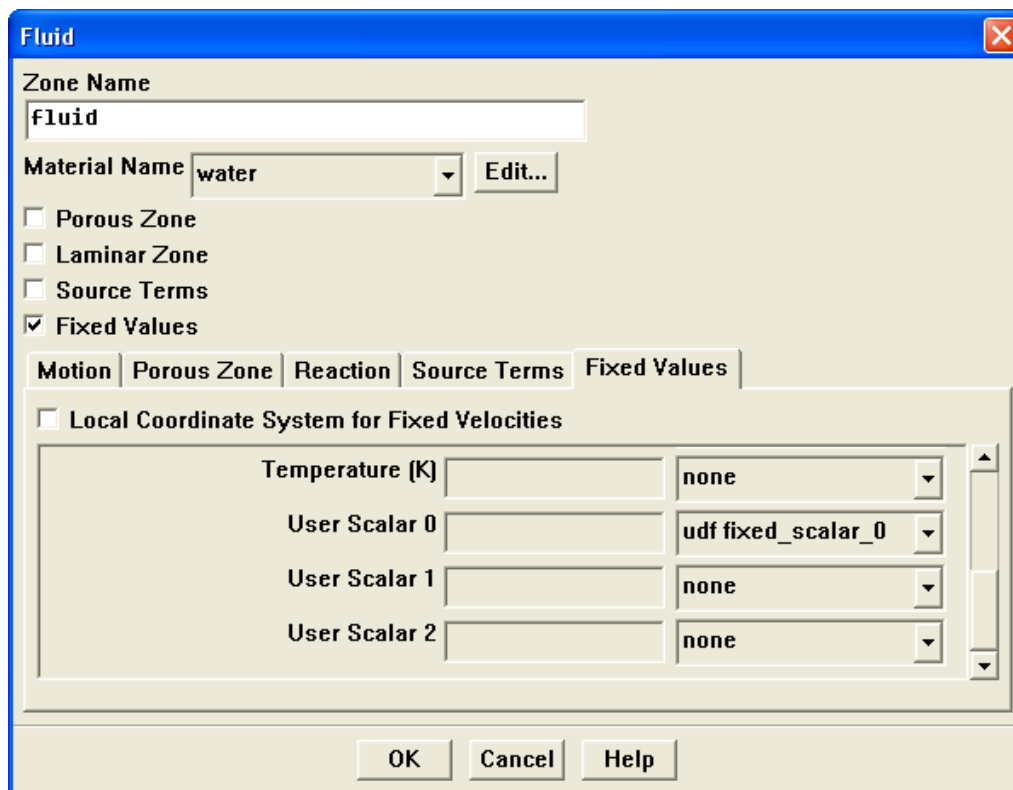

Figure 6.2.15: The Fluid Panel with Fixed Value Inputs for User-Defined Scalars
1. If you are using your UDF to specify a fixed value in a cell zone, you will need to turn on the Fixed Values option in the Fluid or Solid panel and click the Fixed Values tab (Figure 6.2.15). This will display the fixed values parameters in the scrollable window under the Fixed Values tab. Next, select the name of the UDF (e.g., fixed_scalar_0) in the appropriate drop-down list for the value you wish to set.